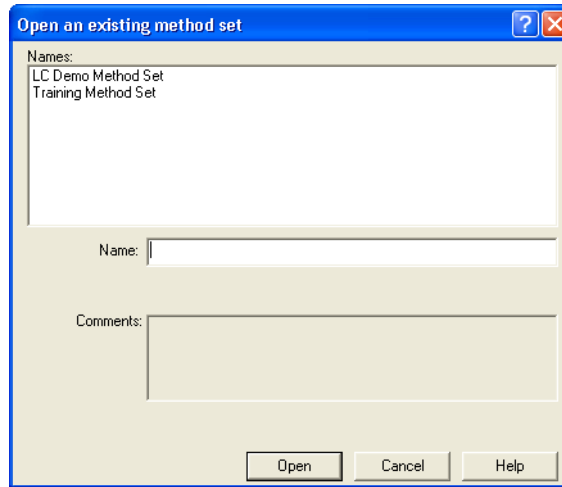

Figure 4-33 Open an Existing Method Set Dialog Box
2. Select **File > Open**. The Open an existing method set dialog box appears (Figure 4-33).